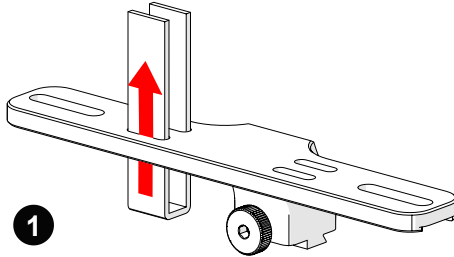

Fig. 101 - Insert velcro straps
1. Slide the velcro strap through the bracket's holes (Fig. 101).